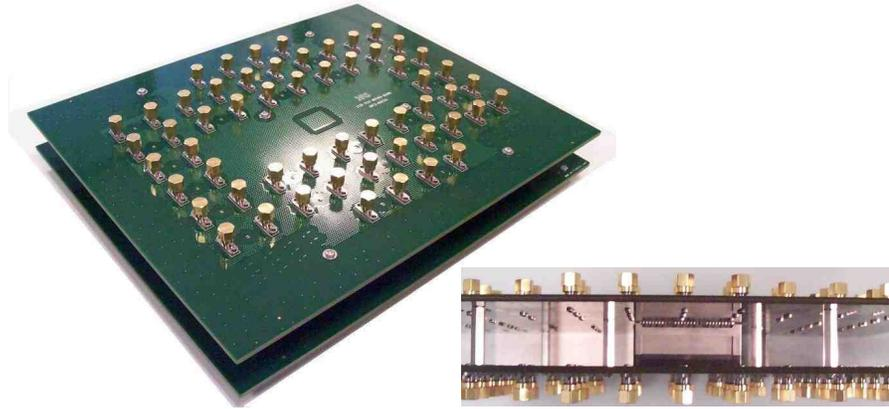

Figure 4-2 Demo board
For high-speed data transmission, the transmitters (TX) and receivers (RX) are usually grouped separately, in order to minimize the effect of near-end crosstalk (NEXT). Actual measurements were taken on 120mil test boards (Figure 4-2) with IT3-25mm connector, 2 via transitions through mid routing layers, and 6"+6" FR408 PCB traces.